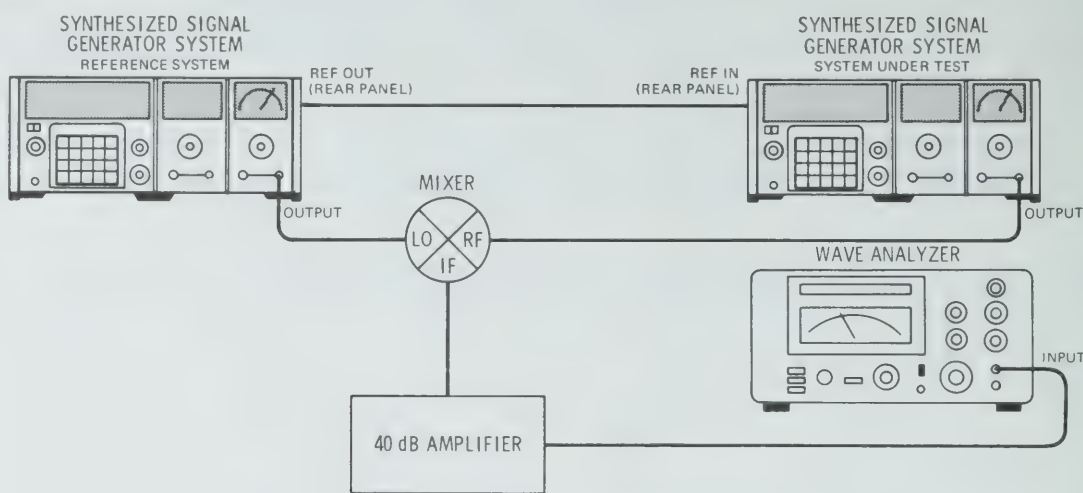

Figure 4-15. Narrowband Spurious Signal Test Setup
1. Connect the equipment as illustrated in Figure 4-15.